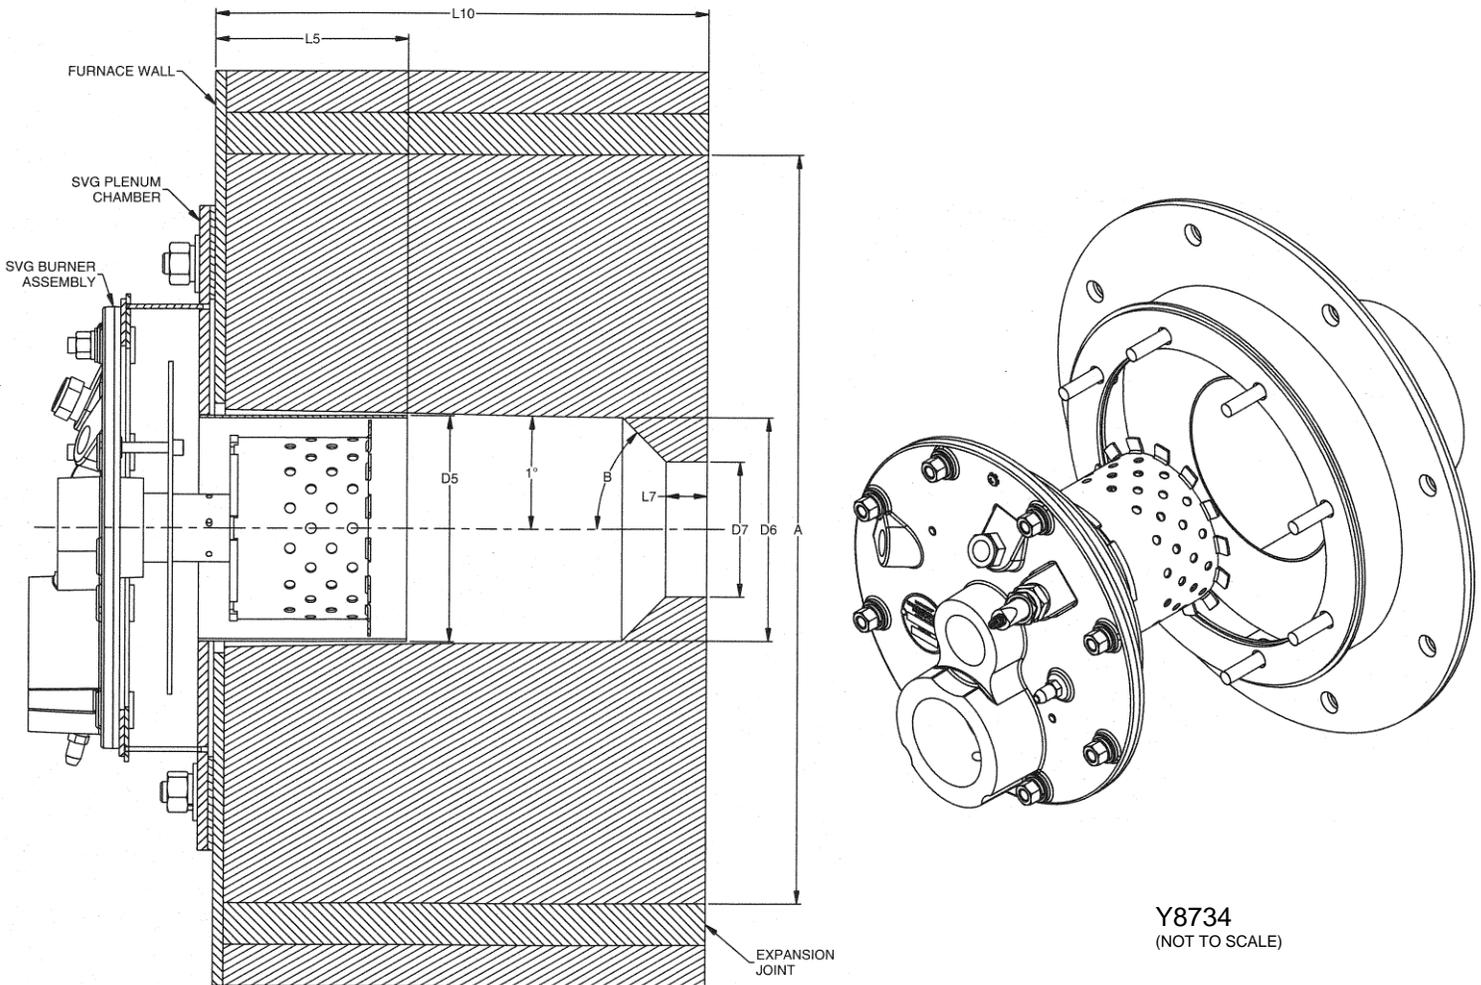

Figure 2. Burner Installation – Cast In Place (CP) Tile
4. For applications where the burner tile will be poured, cast, or rammed into the furnace wall, a "Cast in Place" (CP) burner must be used to ensure proper air distribution and combustion stability.
5. Create a mold of the burner tile according to Figure 2. The tolerance on the dimensions specified on the drawing must be $\pm 1/16$ inch (± 1.5 mm) to ensure proper combustion, operating range, emissions, and velocity
6. Using the mold, create a burner tile with the above dimensions. Even if the burner tile is an integral part of furnace wall, an expansion joint of appropriate size must be provided (see Figure 2). Failure to provide an expansion joint may cause damage to the burner tile or burner itself.